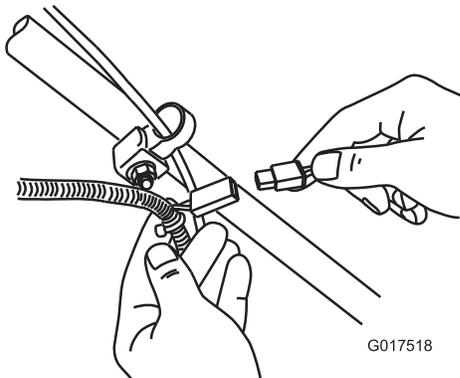

Figure 35
1. Connect the charger to the wire harness, which is located below the ignition key (Figure 35).